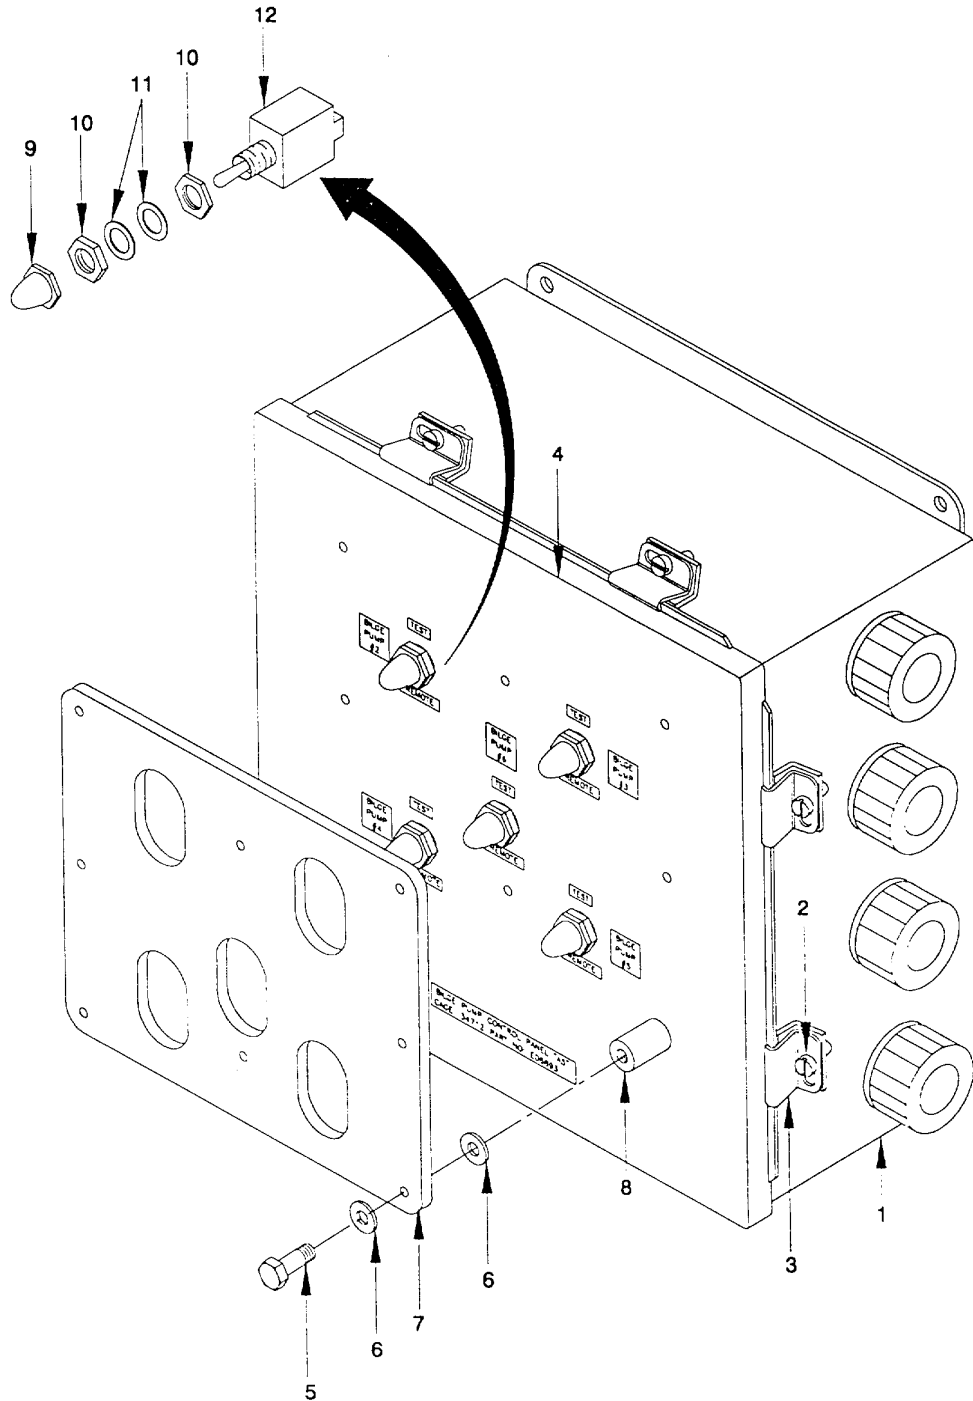

Figure 2-50. Toggle Switch, Bilge Pump Control Assembly "A5". Remove/Install
- a. *Remove.* (figure 2-50)
- (1) Open enclosure (1) by removing six screws (2) and six latches (3).
- (2) Open door (4) to gain access to electrical components within the enclosure (1).
- (3) Inspect all electrical components leading to the toggle switch for corrosion and deterioration. Repair is limited to replacement of components, as necessary.
- (4) Tag and disconnect all electrical connections leading to the toggle switch (12) before disconnecting electrical wiring. Refer to Appendix G, for wiring list and terminal layout.
- (5) Remove capscrews (5), washers (6), and guard (7) from standoffs (8).
- (6) Remove toggle seal boot (9) from toggle switch (12).
- (7) Remove two attaching nuts (10) and washers (11) and collect toggle switch (12) from the enclosure's door (4).
- b. *Install.* (figure 2-50)
- (1) Install toggle switch (12) to panel door (4).
- (2) Attach two washers (11), nuts (10), and toggle seal boot (9) to toggle switch (12)
- (3) Reconnect all tagged electrical connections to the toggle switch (12).
- (4) Install guard (7) onto standoff (8) and attach with washer (6) and capscrew (5).